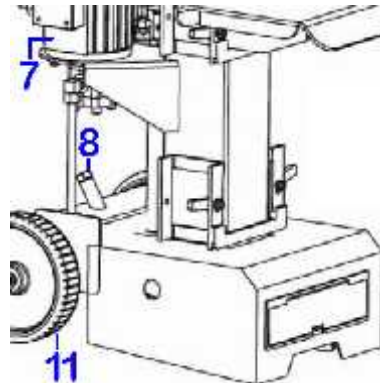

Fig.13
- Loosen the air bleed valve (8 in Fig.13) (oil tank cover) a few turns whenever the splitter is being used.
- Keep air bleed valve (11) opened during operation.
- Retighten this air bleed valve (11) once you finished.